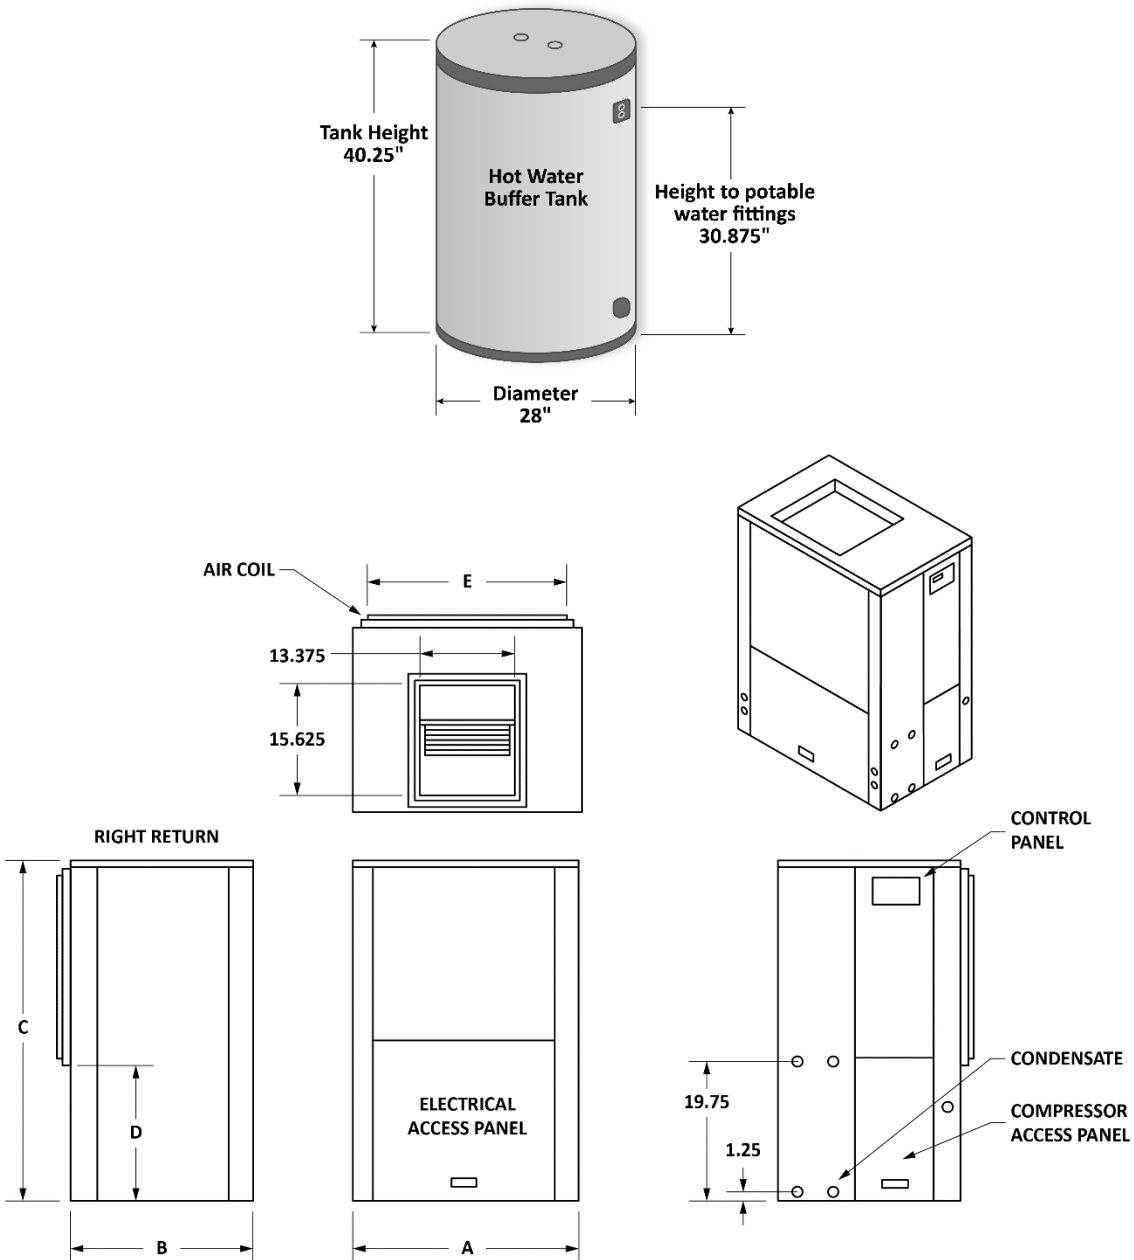

Figure 11: Hot Water Buffer Tank and DHHP unit specifications
- Make sure that the air filter access and electrical access panels are easily accessible (See Figure 11.)